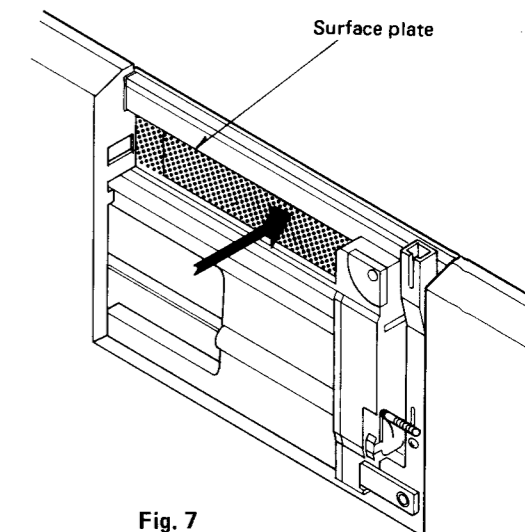

Fig. 7
2. Open the upper cabinet and push the scale part of the surface plate from inside. (Fig. 7)